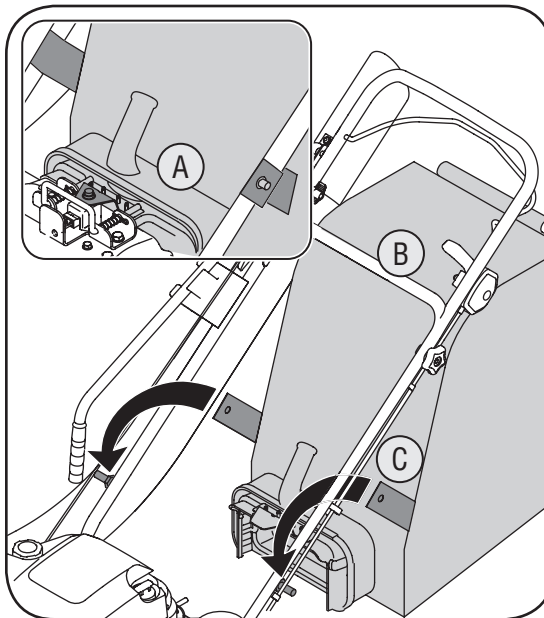

Figure 3-7
- a. Slip bag over the rim of the discharge opening and release locking rod to secure bag in place. See Figure 3-7.
- c. Place the lower straps on the bag over the top of lower handle, hooking them on the studs. See Figure 3-7.